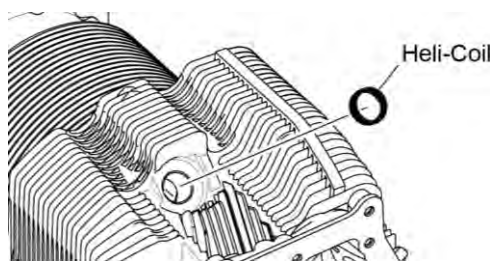

Figure 40
- A. Replace the spark plug Heli-Coil® insert (Figure 40) in the cylinder head if the threads in the spark plug hole in the cylinder are damaged (usually occurs when hard carbon on the end of the spark plug causes the insert to unwind during spark plug removal).